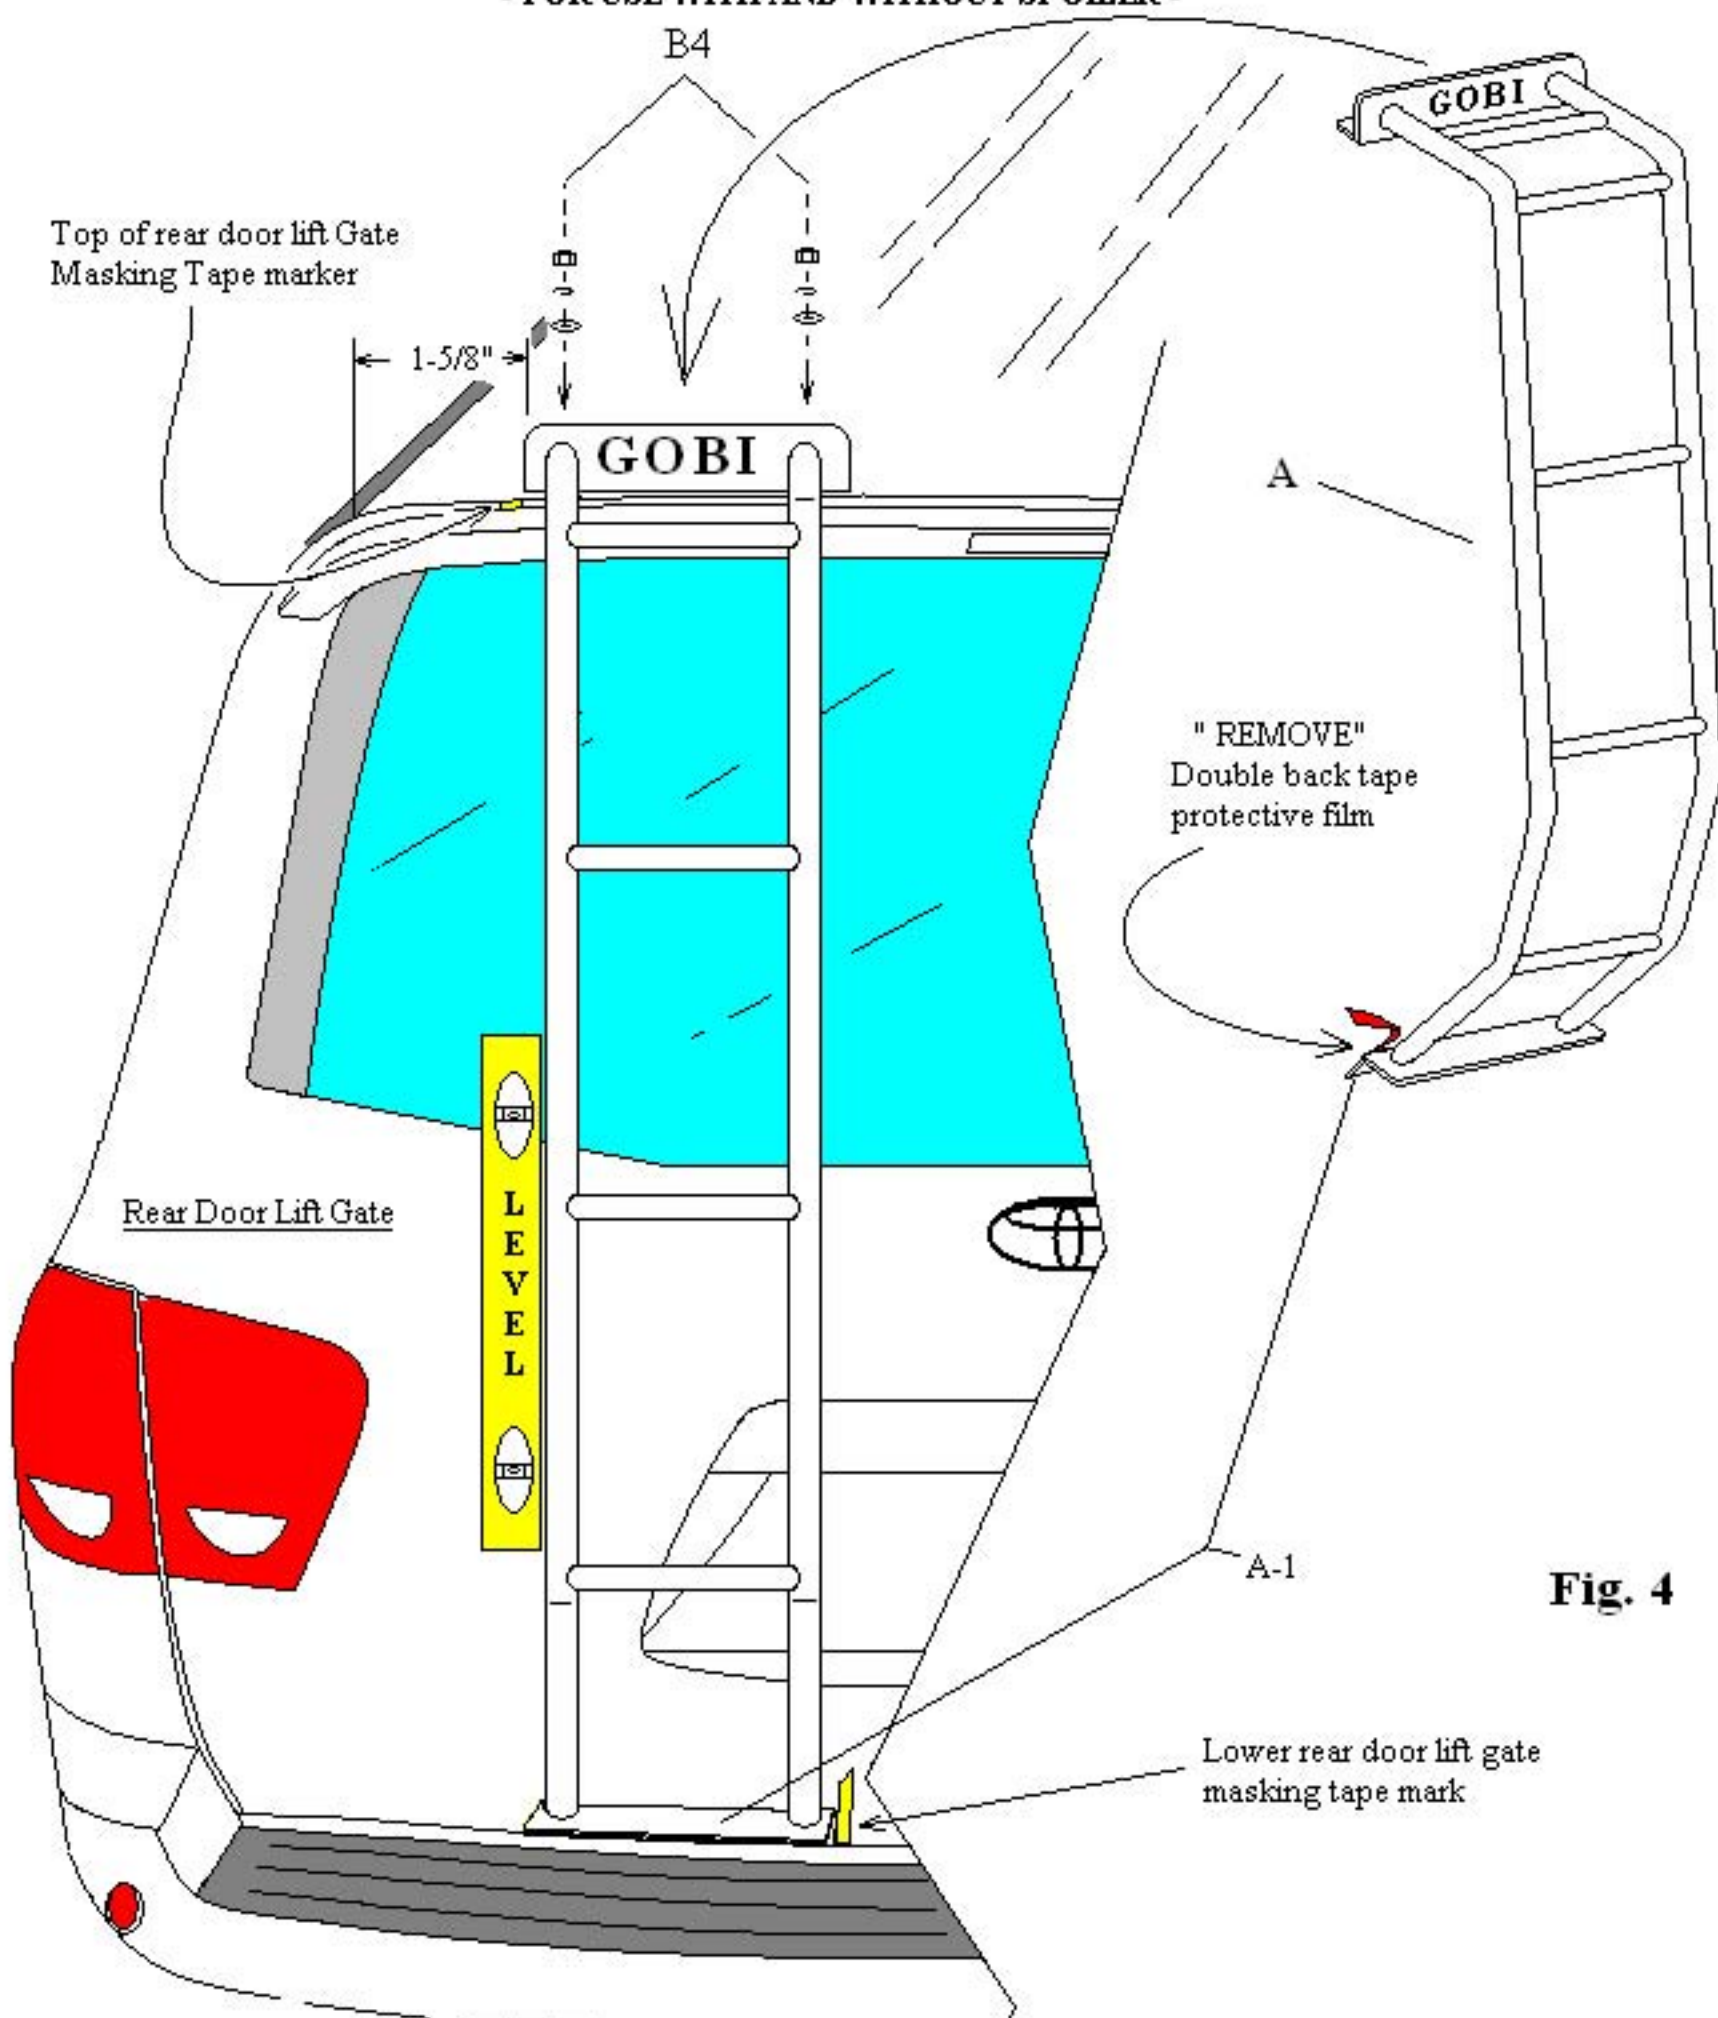

Fig. 4
- 4- Refer to page 6 attach ladder "A" on to upper ladder hanger plate "C" as shown *"Do not peel off double back protective film at this time"*. Visually align the ladder so that it hangs vertically straight up and down. You may want to use a level for accuracy if desired so that the ladder does not appear slanted. Once you have confirmed that the position of the ladder is vertically straight place a piece of masking tape at the bottom driver or passenger side edge of ladder "A-1" as shown in Fig. 4. After the masking tape mark is applied remove ladder "A" from the rear door.
- 9- Refer to page 6 Fig. 4 and install washers, lock washers and nuts "B-4" to the upper hanger bracket as shown in Fig. 4 and fully tighten, *"Do not over tighten"*. Remove all previously applied masking tape markers. Installation is now completed.